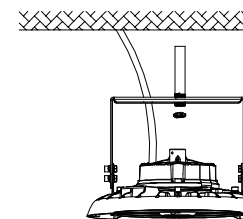

Figure10
3. Re-screw the nuts(Figure10)